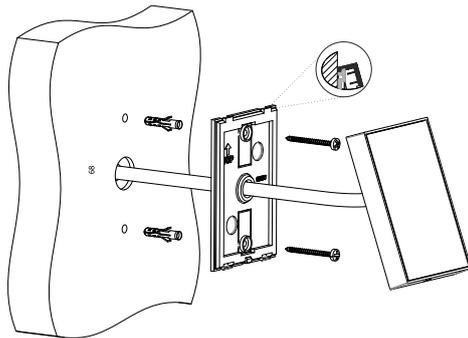

Fig. 2: Card reader installation
3. Align the reader on the top edge of the mounting pad (Figure 2) and click it in.
4. Then secure the card reader with the locking screw (4)